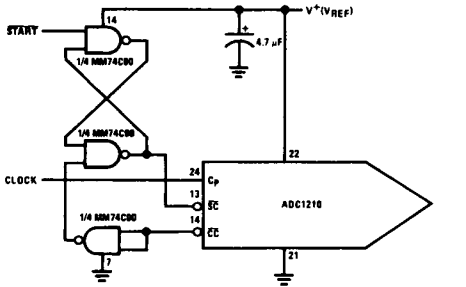

FIGURE 8. Synchronizing the START Pulse
To assure reliable conversion accuracy, the START (SC) pulse applied to pin 13 of the ADC1210 should be synchronized to the conversion clock. One simple way to do that is the circuit shown in Figure 8. Note that once a conversion cycle is initiated, the START signal cannot effect the conversion operation until it is completed.